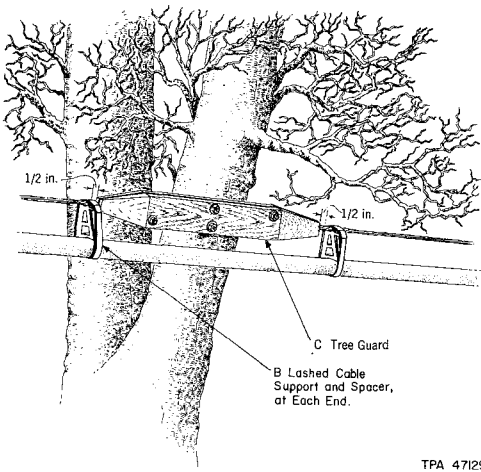

Fig. 2—C Tree Guard Installed to Protect Cable in Rings.
- (b) Use a C Tree Guard, as shown in Fig. 2, where clearance for the cable can be provided by placing a guard on the strand. This method can be used only where the cable is supported in rings.